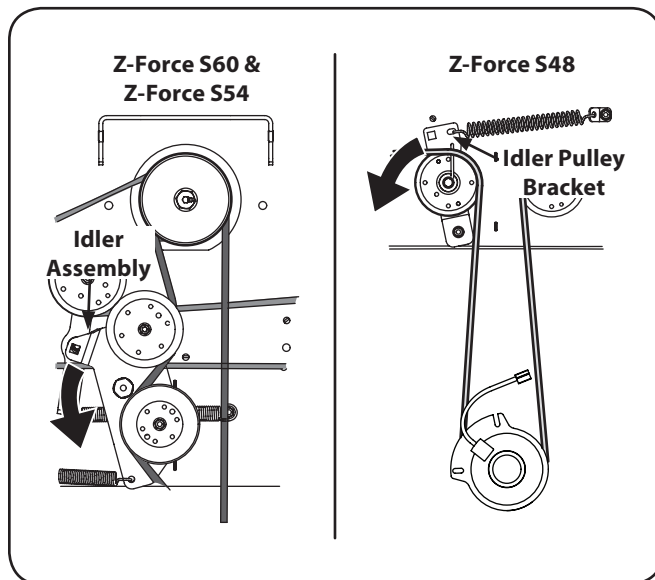

Figure 7-4
3. Using a 1/2" drive in the idler pulley bracket, turn the wrench towards the back of the tractor and slide the belt off the PTO pulley. See Fig. 7-4.